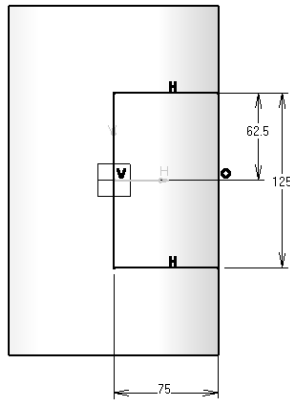

Figure 6-94 Sketch of the second feature
- Create the second feature by extruding the sketch drawn on a plane created at an offset distance from the xy plane, refer to Figures 6-94 and 6-95.
3. Draw the sketch, as shown in Figure 6-94, and exit the **Sketcher** workbench.